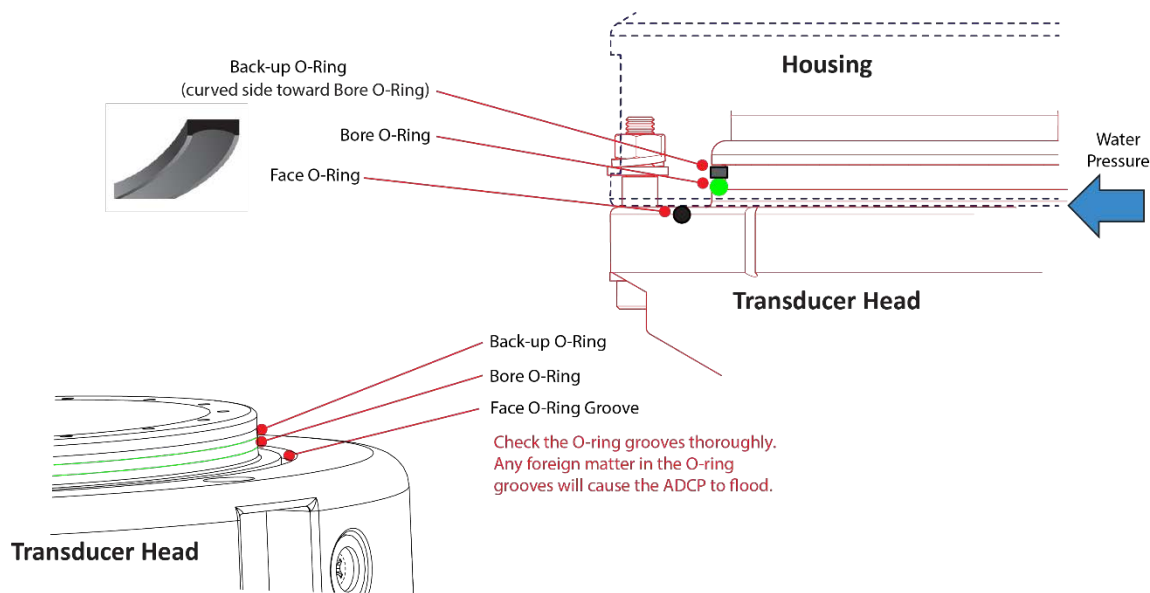

Figure 26. O-Ring Detail View
The backup O-ring is installed on both 3000- and 6000-meter systems in addition to the 2-258 bore O-ring on the transducer/end cap assembly. Install the backup O-ring with the cupped side facing the 2-258 bore seal O-ring (see Figure 26).
8. The backup O-ring (see Figure 26) is installed in addition to the 2-258 bore O-ring on the transducer head assembly for 3000, and 6000-meter systems. Install the backup O-ring with the cupped side facing the 2-258 bore seal O-ring.